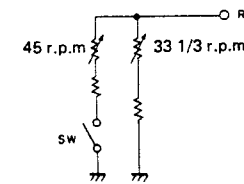

Fig. 5-1 Switching reference frequency
1. Since the rotational speed is detected at a fixed frequency, the frequency must be converted to a voltage (DC). This function is performed by the F/V converter.
4. Switching reference frequency is shown in Fig. 5-1.